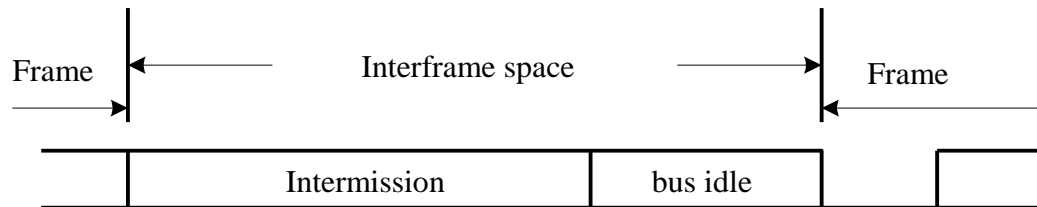

Figure 13.10 Interframe space for non error-passive nodes or receiver of previous message
- ▶ The formats for inter frame space is shown in Figure 13.10 and 13.11.